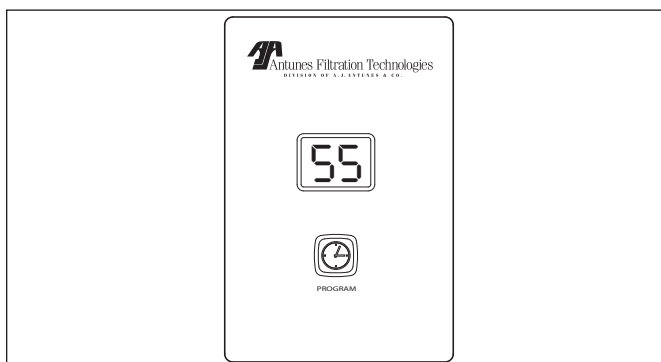

Figure 9. Time Setting Fd Mode (55 Seconds)
3. To make a change, press and hold the Program button to scroll through settings - release the button at desired setting (Figure 9).